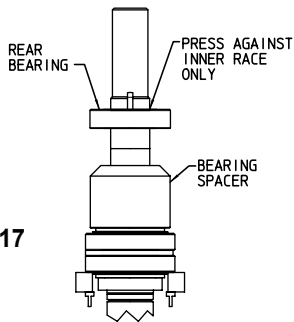

FIGURE 17
3. Coat rear bearing area on shaft with grease conforming to ISO 220, NLGI grade 2 or NSF USDA-H1. Slide rear bearing over shaft with shield side down. Press bearing onto shaft until it seats against spacer. Refer to **Figure 17**.